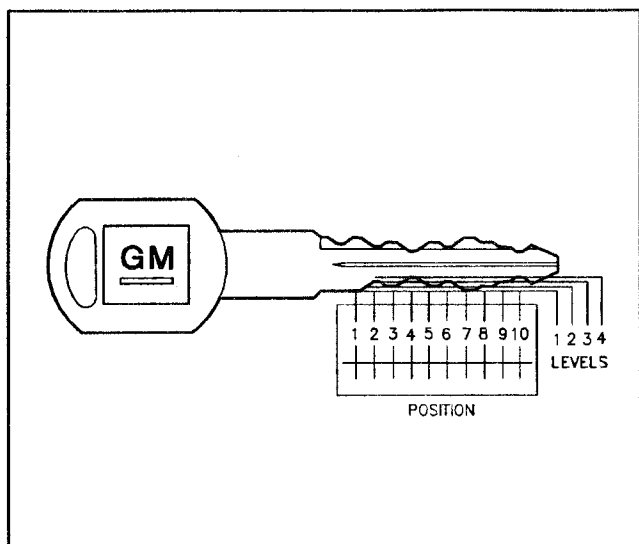

Figure 21—Key Code Diagram
- Without the numerical key code or without a code list, read the key (Figure 21).
2. Starting with position one (the open end or head of the cylinder), insert tumblers in their proper slots in the order called for by the code (Figure 21).